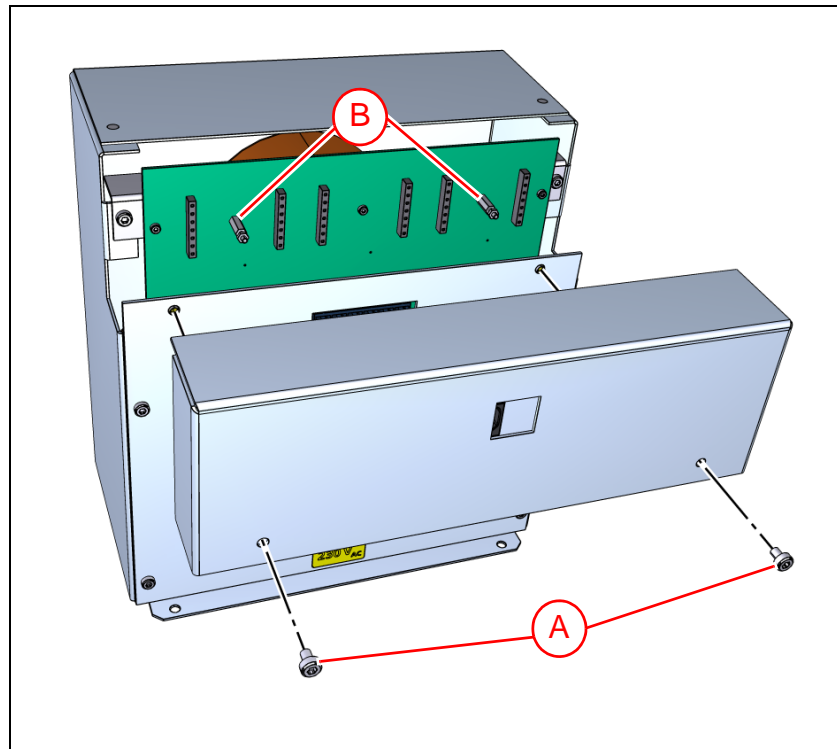

Figure 2-20. Remove cover.
7. Remove the two upper screws on the EPT3 and remove the cover ('A' in Figure 2-20).